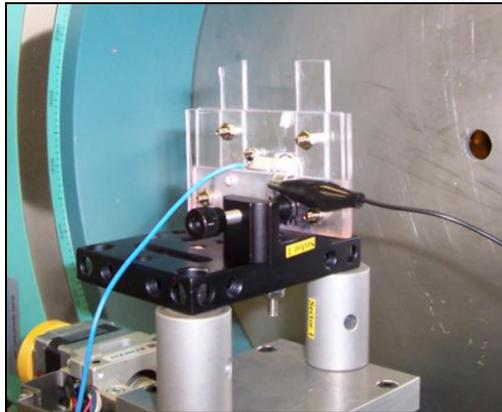

Figure 3: Example of how to connect the voltage and ground wires to sample.
4. Place the lead wire (positive and negative/ground wire) on the appropriate sides of the sample for poling. Preferably positive on top and negative on the bottom (as shown in Appendix I, Figure 3.)